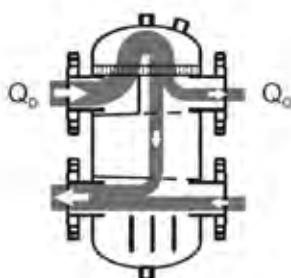

Fig 2
- Fig 2 – When the heating demand is reduced, the flow rate in the secondary circuit is reduced. A part of the flow in the primary circuit is returned to the heat source. The excess heat indicates that the boiler output should be reduced or stopped.